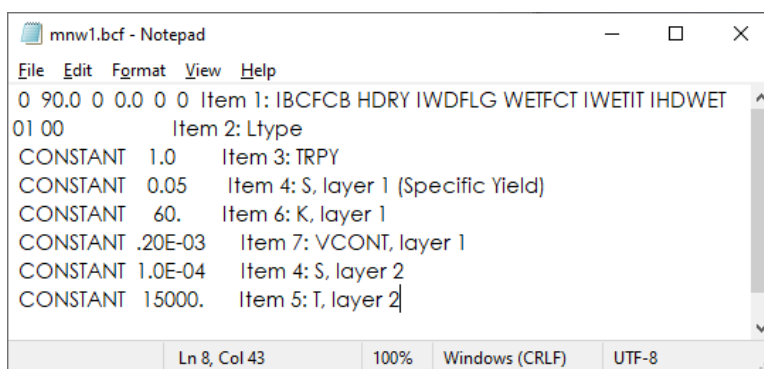

Figure 6: MODFLOW BCF file
7. Using a text editor, open “mnw1.bcf” (Figure 6).